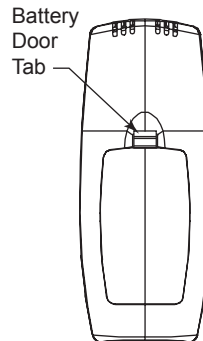

Fig. 58 Battery door tab.
1. Press down the battery door tab and pull out to remove the battery door. (Fig. 58)
4. When three (3) batteries are installed, the transmitter will initialize for 10 seconds and then is ready for use.
5. The batteries should be replaced at least once every six (6) months or when the low battery indicator is displayed.